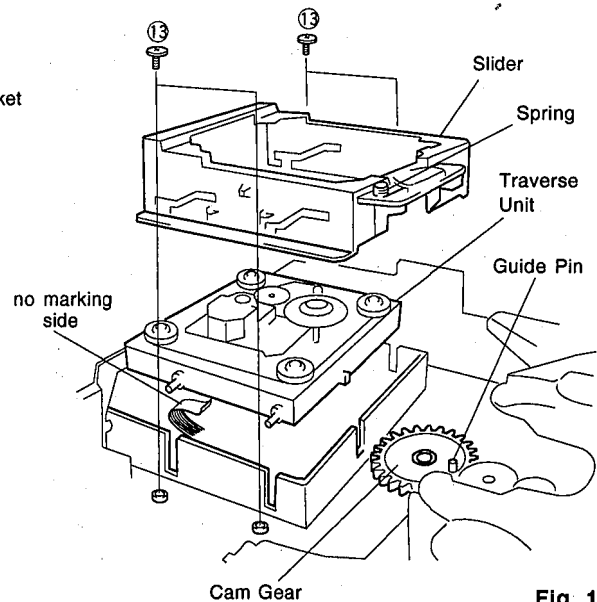

Fig. 11
- Remove 4 screws (⑬) and take out the Slider in Fig. 11.
- Disconnect the Flat Connecting Cable (16P) and connectors (6P) and then remove the Traverse Unit in Fig. 11.
- Turn the Cam Gear till its Guide Pin comes to the position as shown in Fig. 11.